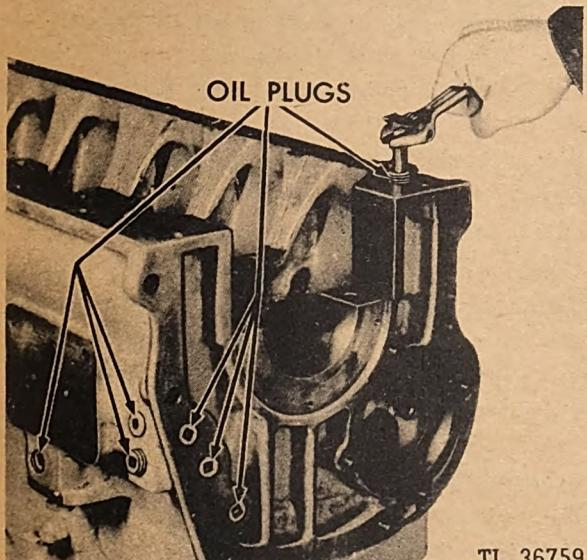

Fig. 107. Removing Oil Plugs
x. *Removing Oil Line Pipe Plugs.* Remove the oil line pipe plug at the front end of the crankcase and the three plugs at the rear end. (See Figures 107 and 108.)